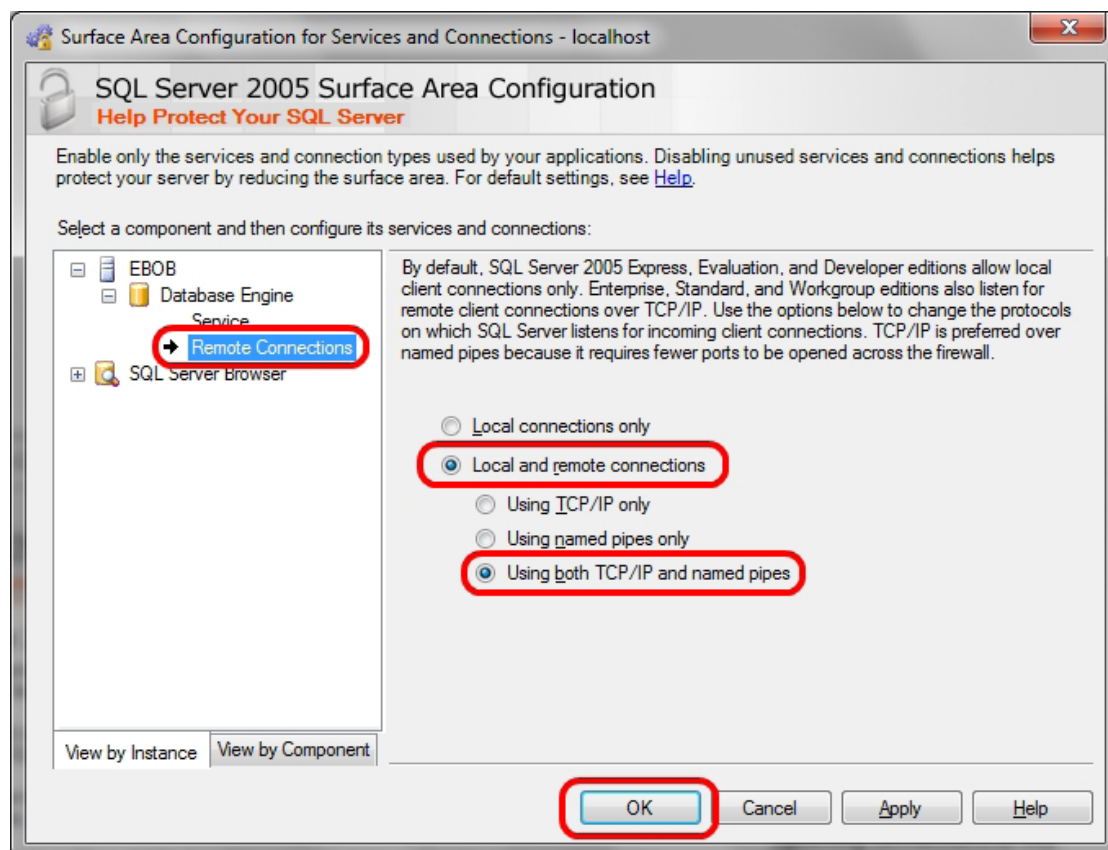

Figure 9
4. In the left pane, click on Remote Connections under the Bininventory server instance. Refer to Figure 9.